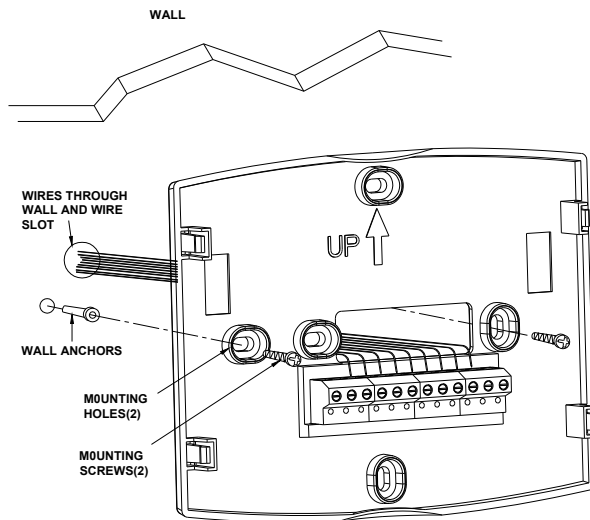

Fig. 6. Mounting wallplate.
4. Position the wallplate over the holes, pulling wires through the wiring opening. See Fig. 6